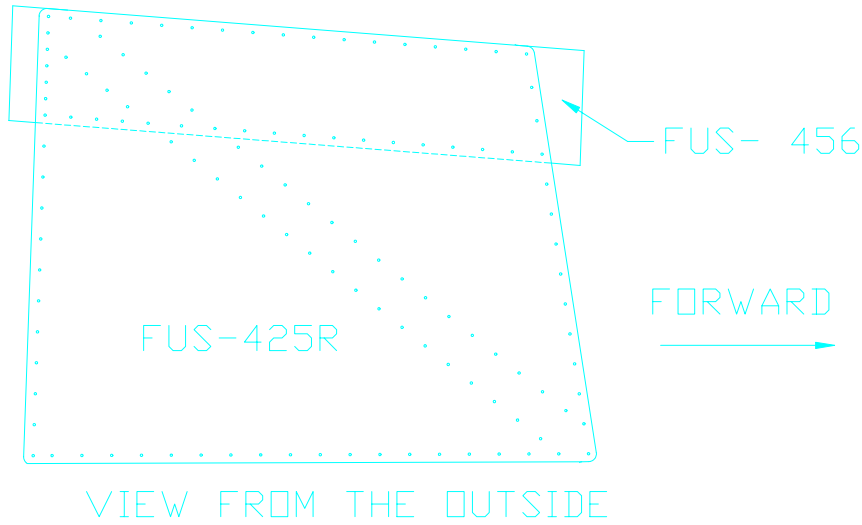

Figure 9.18.3
- 4) Prepare the FUS-425L and FUS-425R Side Panels by first fabricating two doublers. Use raw stock FUS-456. Place it behind the Side Panels and drill all the #40 holes in the area of the doubler as in Figure 9.18.3.